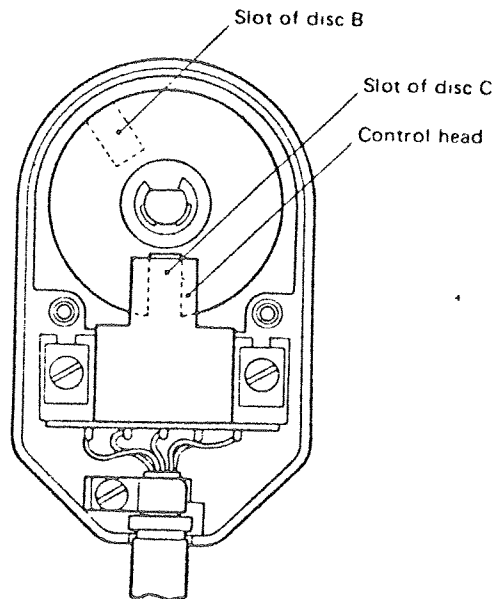

Fig. 7
- 1) Turn the machine to the "needle down" position and set the slot of disc B to the position of control head. (Fig. 7)